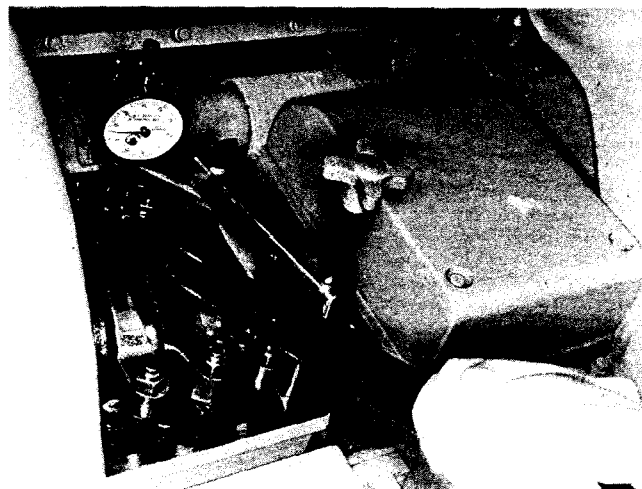

Fig. 2-63, (K21921). Bottoming injector plunger in cup
3. Using rocker lever actuator, Fig. 2-63, depress lever toward injector until plunger is bottomed in cup to squeeze oil film from cup. Allow injector plunger to rise, bottom again, hold in bottom position and set indicator at zero (0). Check extension contact with plunger top.